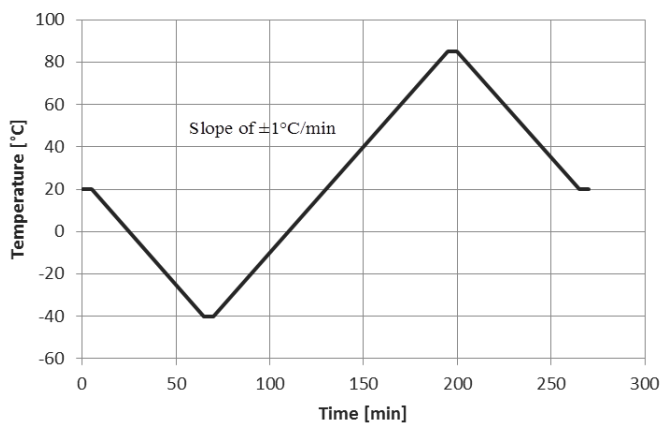

Figure 27: Recommended Temperature profile for calibration
2. Place the sensor on a rate table in a thermal chamber and implement temperature profile according to Figure 271